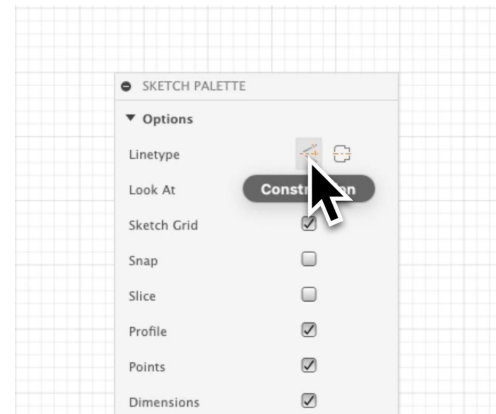
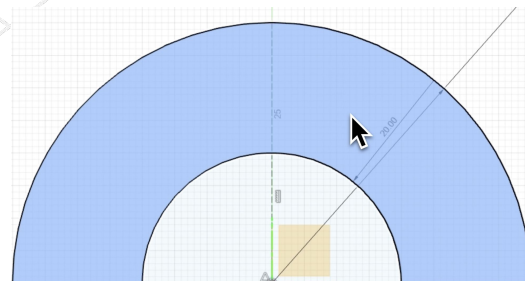

Figure 1.4
Figure 1.5
- To turn this line into a '**Construction Line**', you'll go to the Sketch Palette and select '**Construction**' under Linetype (see Figure 1.4). The line will change to a dotted style, indicating that it is now a '**Construction Line**' (see Figure 1.5).